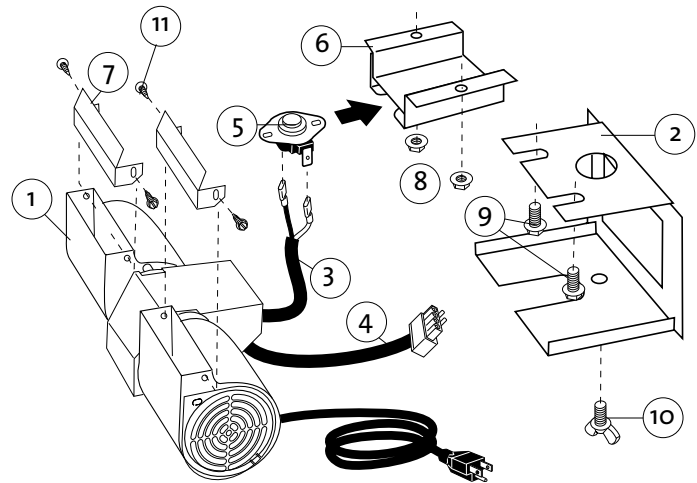

Figure 7.3. Blower Kit Components
1. Unpack and check the contents of the blower kit. Contact your dealer if damage is evident or parts are missing. See fig. 7.3.